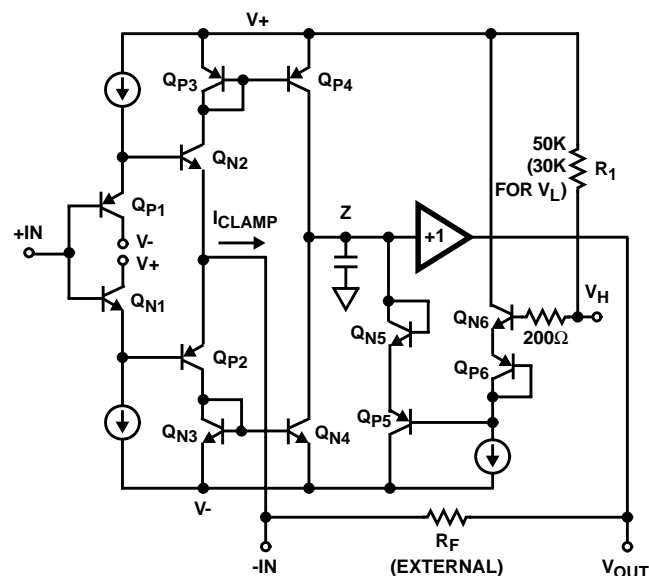

FIGURE 1. HFA1130 SIMPLIFIED  $V_H$  CLAMP CIRCUITRY
Figure 1 shows a simplified schematic of the HFA1130 input stage, and the high clamp ( $V_H$ ) circuitry. As with all current feedback amplifiers, there is a unity gain buffer ( $Q_{X1} - Q_{X2}$ ) between the positive and negative inputs. This buffer forces  $-IN$  to track  $+IN$ , and sets up a slewing current of  $(V_{-IN} - V_{OUT})/R_F$ . This current is mirrored onto the high impedance node (Z) by  $Q_{X3} - Q_{X4}$ , where it is converted to a voltage and fed to the output via another unity gain buffer. If no clamping is utilized, the high impedance node may swing within the limits defined by  $Q_{P4}$  and  $Q_{N4}$ . Note that when the output reaches it's quiescent value, the current flowing through  $-IN$  is reduced to only that small current ( $-I_{BIAS}$ ) required to keep the output at the final voltage.
The clamped output voltage will not be exactly equal to the voltage applied to  $V_H$  or  $V_L$ . Offset errors, mostly due to  $V_{BE}$  mismatches, necessitate a clamp accuracy parameter which is found in the device specifications. Clamp accuracy is a function of the clamping conditions. Referring again to Figure 1, it can be seen that one component of clamp accuracy is the  $V_{BE}$  mismatch between the  $Q_{X6}$  transistors, and the  $Q_{X5}$  transistors. If the transistors always ran at the same current level there would be no  $V_{BE}$  mismatch, and no contribution to the inaccuracy. The  $Q_{X6}$  transistors are biased at a constant current, but as described earlier, the current through  $Q_{X5}$  is equivalent to  $I_{CLAMP}$ .  $V_{BE}$  increases as  $I_{CLAMP}$  increases, causing the clamped output voltage to increase as well.